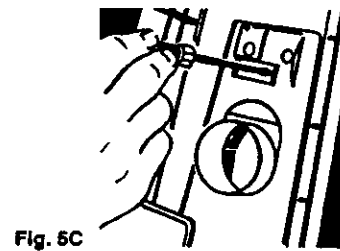

Fig. 5C
a. Release two tabs on inside of bag housing located above dirt tube (Fig. 5C)